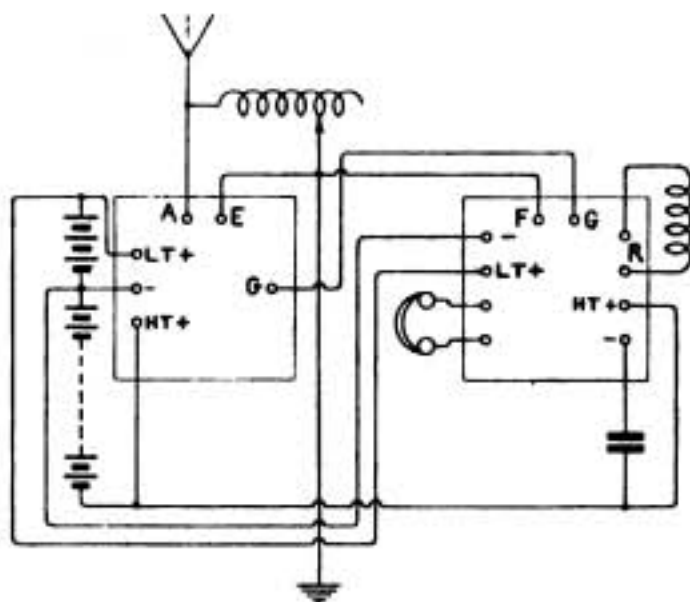

Fig. 4.
(1) Connect up as in diagram (Fig. 4). (2) As far as we can judge from the very rough sketches submitted this arrangement should be fairly satisfactory. Also move telephone connections on second panel to the positive side of the H.T. battery terminals.